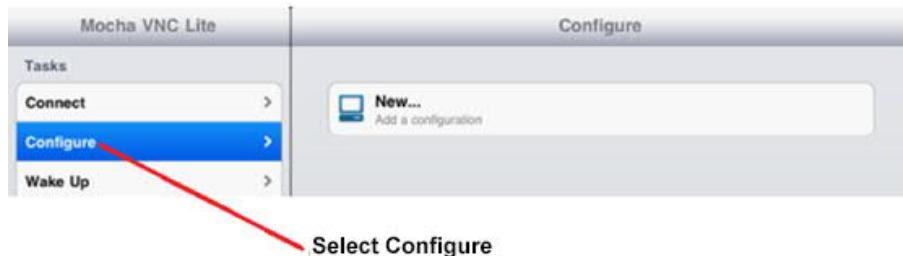

Figure 70: Mocha VNC Lite Configure (New) Screen
10. Open the application and select Configure. (Figure 70)